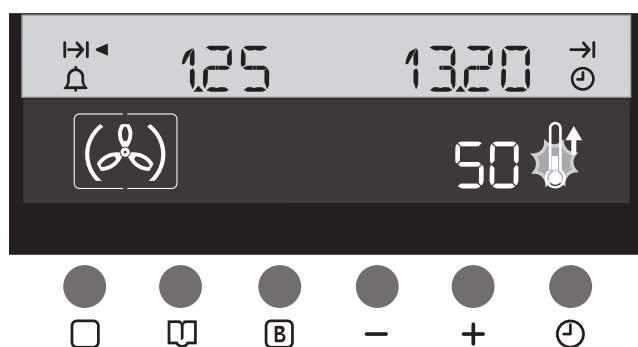

Fig. 24
4. When 5 seconds elapse, symbol **●** disappears showing that the temperature level has been stored in the Electronic Control memory. The thermometer symbol rises slowly **↑**, indicating the degree to which the oven is currently heated. The upper section of the display will now show the cooking duration at the left hand and the end of cooking time at the right hand (Fig. 24).